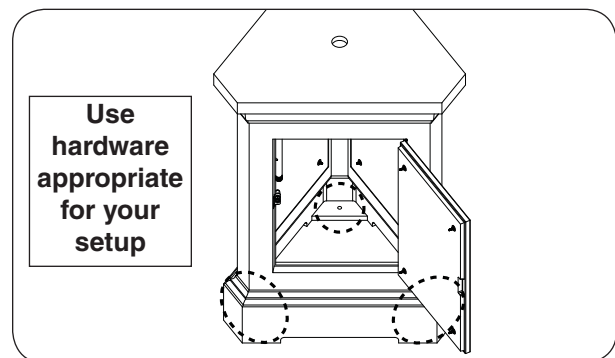

Fig. 26-2 Mount pedestal
2. Using appropriate mounting hardware for the floor material/construction, secure the pedestal into the floor. The interior of the base has three  $\frac{1}{2}$ " holes that will allow for the pedestal to be fastened to the floor. See Fig. 26-2.